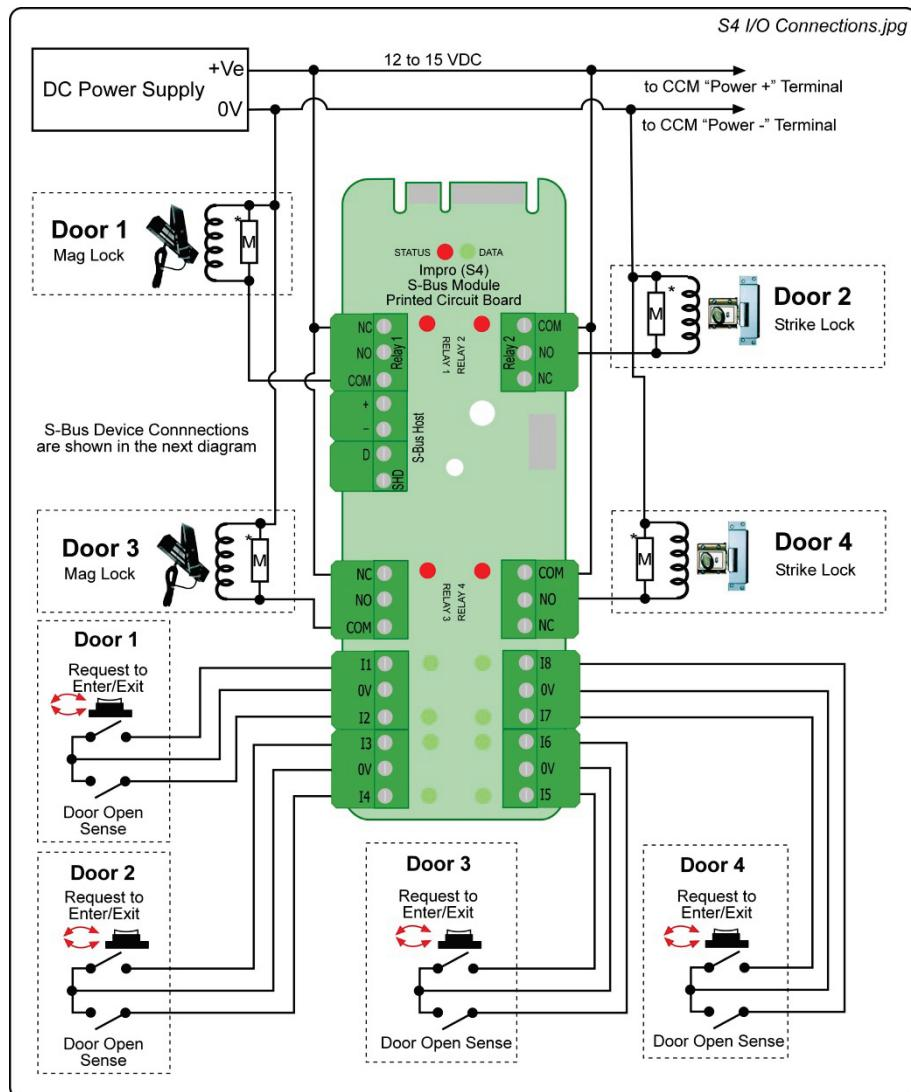

Figure 4: Four-door I/O wiring diagram
The logic driving the 4 relays and the 8 digital inputs in **Figure 4** is configurable from within the Access Portal Software.
**Figure 4** doesn't show the end-of-line resistors on the Digital Input Circuits - See **Figure 1** (on page 2) for the correct placement of the 1k $\Omega$  EOL Resistors.